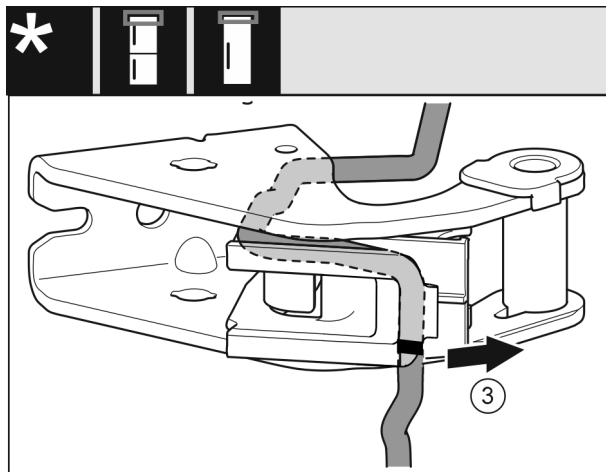

Fig. 27
- Remove the cable with the cable holder from the bearing bracket. Fig. 27 (3)